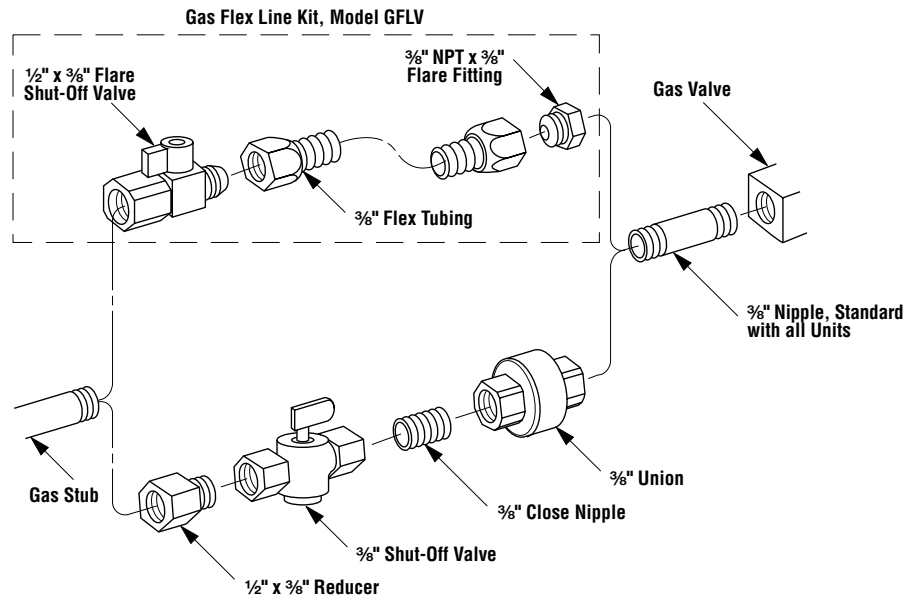

Figure 10
Step 5. Connecting Gas Line – Make gas line connections. All codes require a shut-off valve mounted in the supply line. *Figure 10* illustrates two methods for connecting the gas supply. Installation methods and materials must be in compliance with local codes.